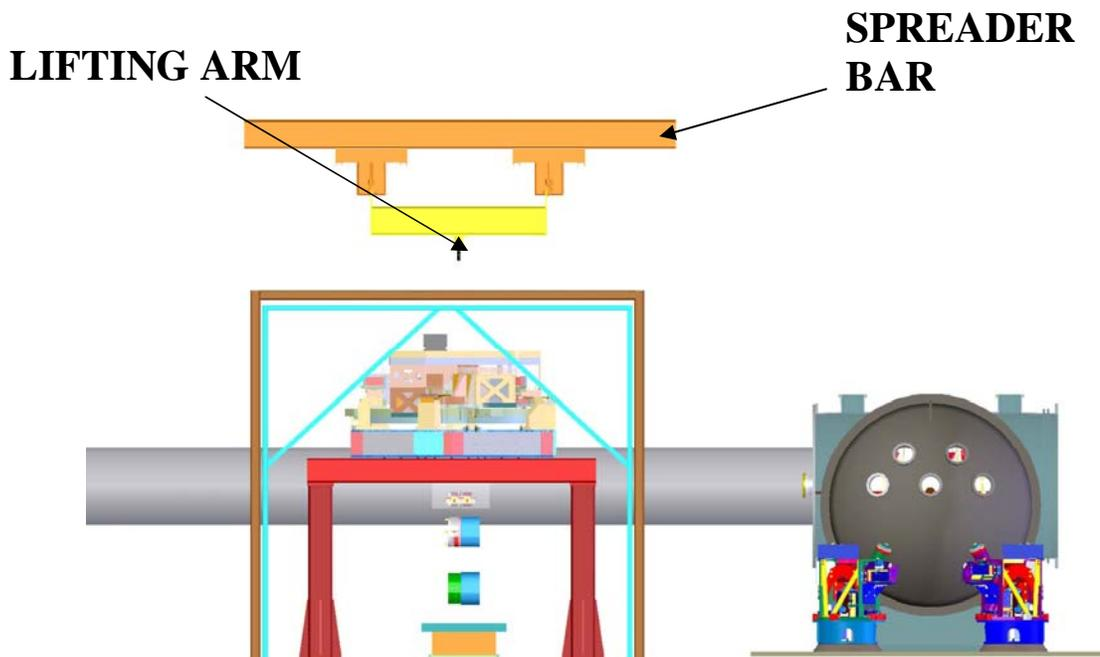

FIG. 5
1. The quad is initially mounted to the optics table of the BSC-ISI and the BSC-ISI is fastened to the test stand as shown in fig. 5.